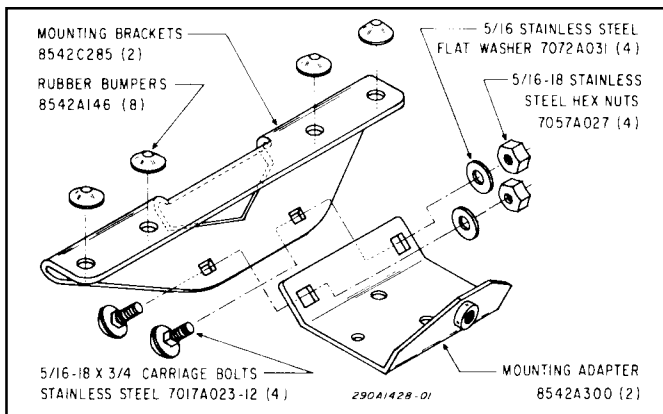

Figure 6.
8. Assemble a mounting adapter to each mounting bracket with two (each) 5/16-18 x 3/4" square neck carriage bolts, 5/16 flat washers, and 5/16-18 hex nuts as shown in figure 6.
9. Insert the four (4) rubber bumpers in the mounting bracket as shown in figure 6.